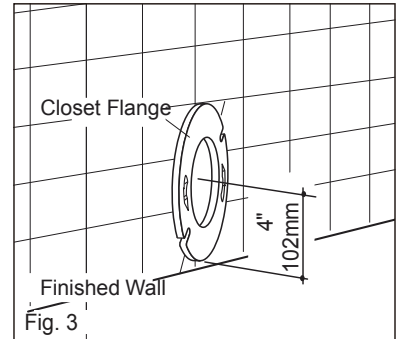

Fig. 3
1. It is important for the installation of Somerton Smart Back Outlet Two Piece Washdown toilet that the closet flange be accurately set out on the finished wall as detailed in Fig. 3.